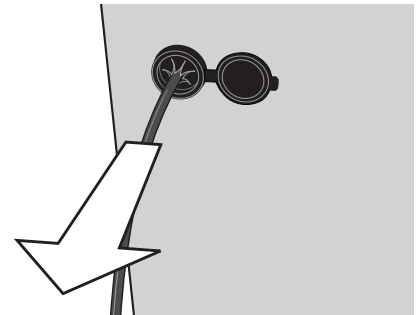

Figure 3, Exterior View
4. When passing cords into the box, be sure to always enter box from the rear. After head of cord is in place, slightly pull back 2-3" to ensure weather resistant "star bursts" are facing toward the outside of box (figure 3). Never push the cord from inside the box so that mating plug points are exposed to the environment